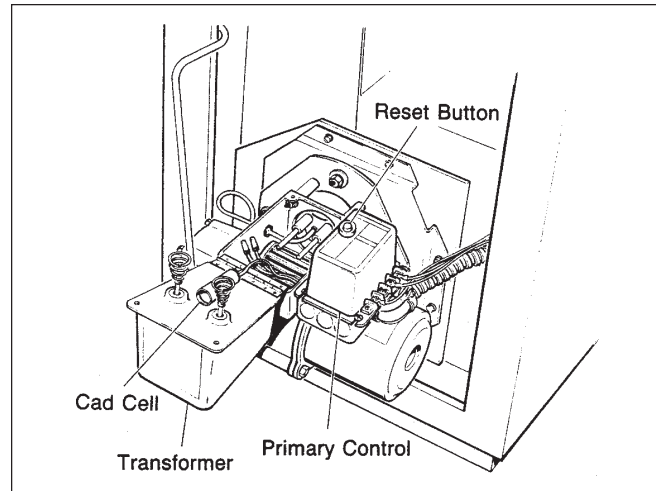

Figure 21. Cad Cell and Primary Control.
**NOTE:** These troubleshooting procedures require connections to electrical terminals and jumper wires to check operation. To avoid electrical shock, turn off electric power before servicing line voltage controls. Never leave a jumper wire in place to fix a heater. This would bypass safety and operating controls. See Figure 21 for burner parts identification.